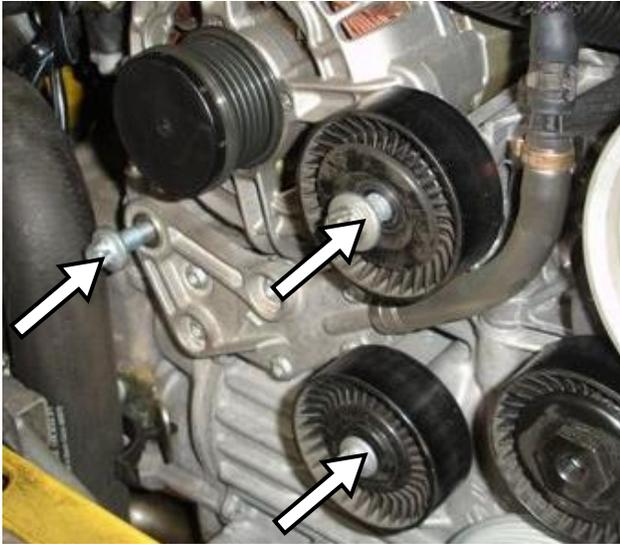

Figure 21
- Remove the alternator mounting bolts (figure 21).
- Remove the idler pulleys (figure 21).